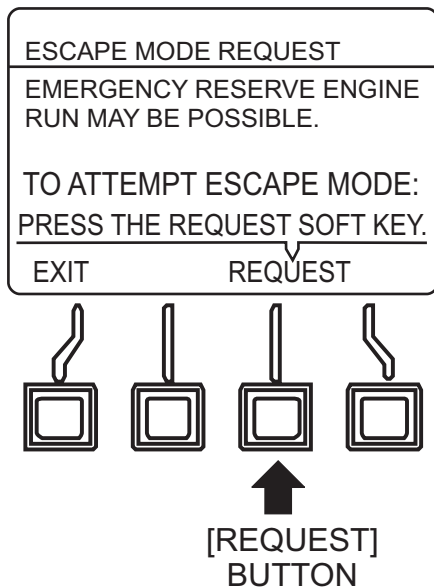

Figure 99. Escape Mode (Request Button)
6. Press the **[REQUEST]** button (Figure 99) to send "Escape Mode Request" signal to ECM.